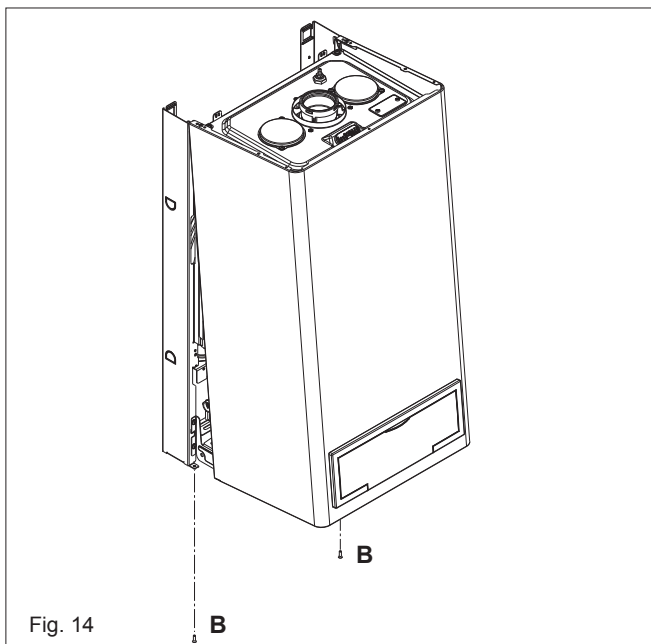

Fig. 14
4.7.1 CASING REMOVAL (fig. 14)